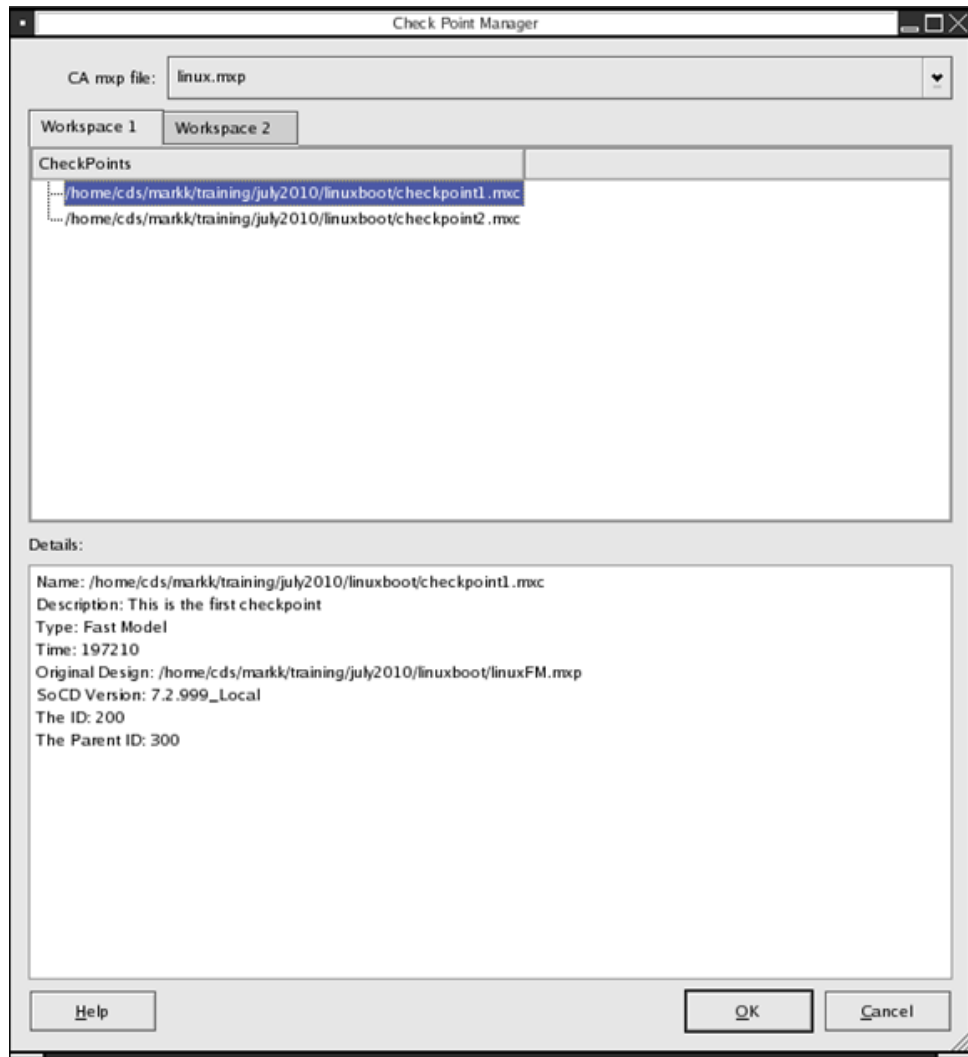

Figure 4-21 Check Point Manager dialog
2. Select the SoC Designer system from the **CA .mxp File:** pulldown menu (Figure 4-21).